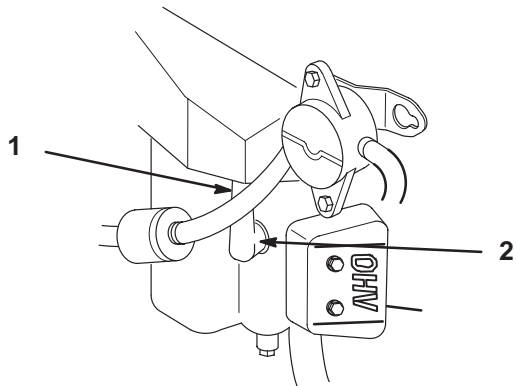

Figure 37
2. Pull the wire(s) off of the spark plug(s) (Fig. 37). Clean around the spark plug(s) to prevent dirt from falling into the engine and potentially causing damage.
3. Push the wire(s) onto the spark plug(s) (Fig. 37).